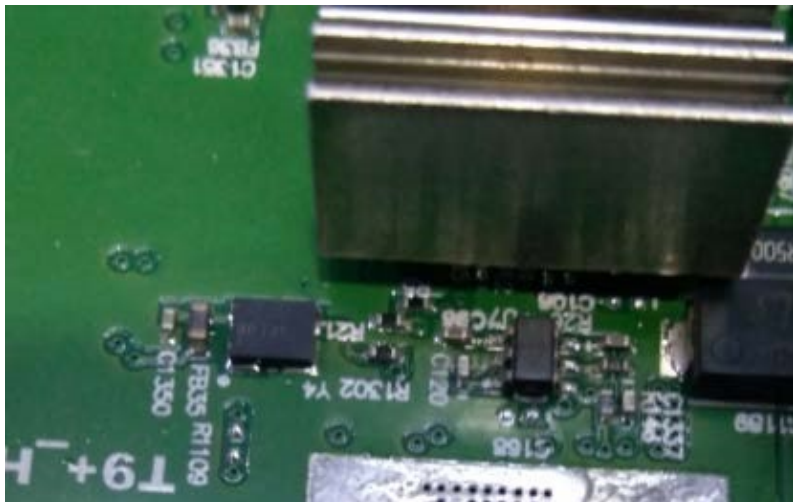
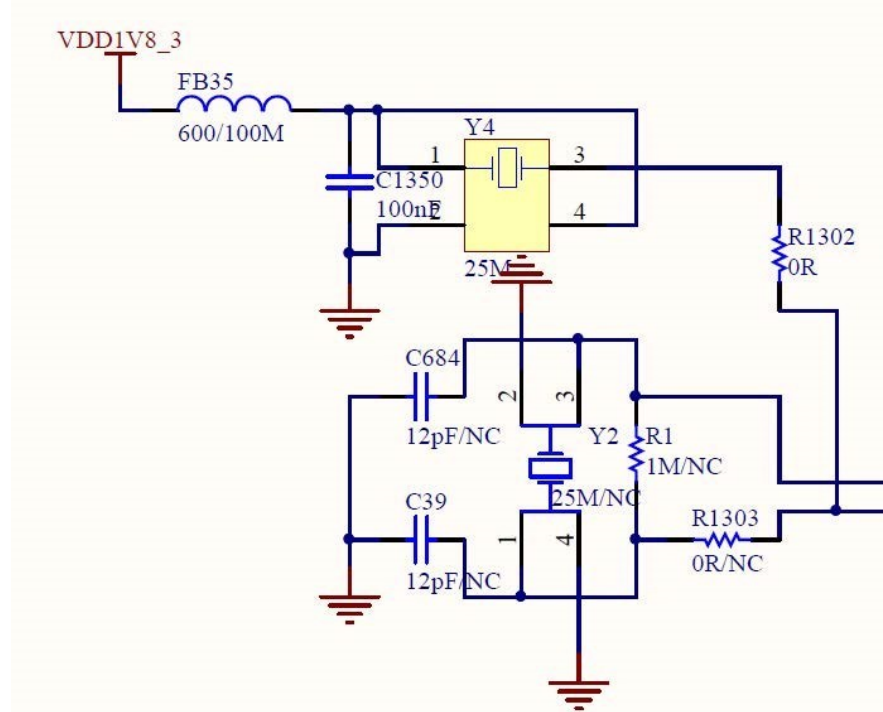

Fig 20. 25M CLK Circuit
Fig 21. 25M CLK Schematic
7. 25M CLK: Composed of Y 25MHZ passive crystal oscillator and 100nF: See Fig 20 and Fig 21.